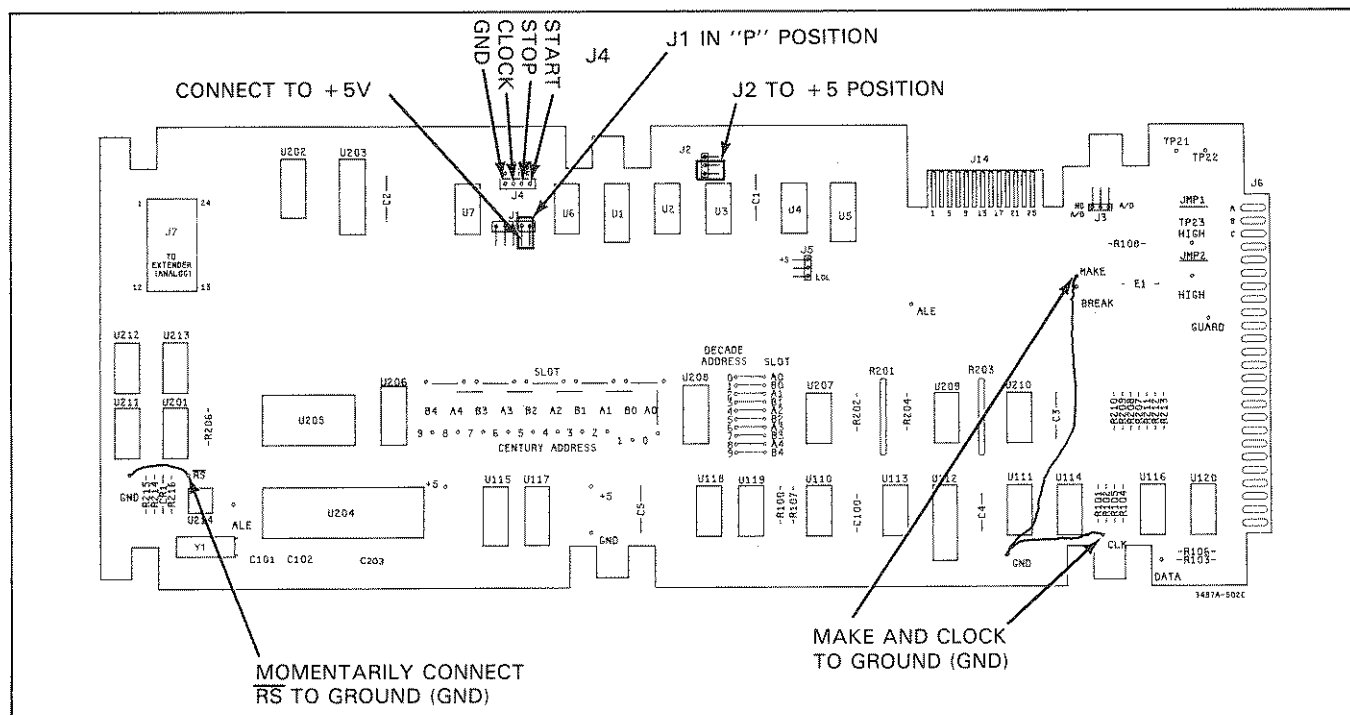

Figure 8-B-1. Setup for Inguard SA Test
- c. Locate the ribbon cable soldered to the voltmeter option board. Disconnect the cable from the inguard controller board (see Figure 8-B-1).
d. Locate jumper plug J1 and move the jumper plug to the "P" position, as shown in Figure 8-B-1.
f. Connect the signature analyzer as follows (see Figure 8-B-1):
- Gnd: Pin 1 of J4 (G)
n. If the signatures are wrong, the inguard processor or A/D logic is most likely at fault. Do the procedure in the flowchart located in Figure 8-B-2 (A/D Logic Troubleshooting). Do not change the present test setup. It will be used in the flowchart.